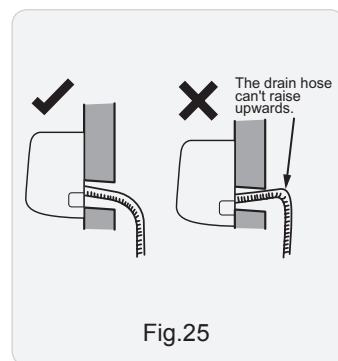

Fig.25
- The through-wall height of drain hose should not be higher than the outlet pipe hole of indoor unit. (As show in Fig.25)